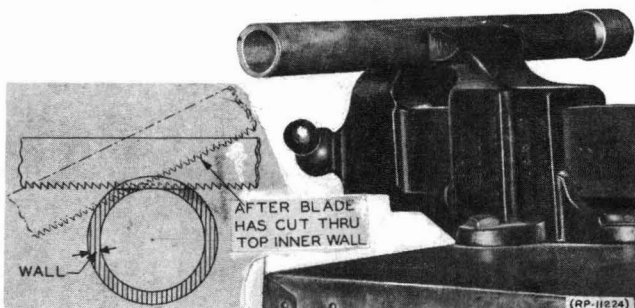

FIG. 2 CUTTING CONDUIT WITH R-2281 HACK SAW (PAR. 4.4)
4.4 Secure conduit to be cut in an R-1530 or R-2506 vise and cut with the R-2881 hand hack saw. Cut squarely through the conduit. As soon as the blade cuts through the first wall slightly lower the handle end of the saw as illustrated in Figure 2. When the holding position becomes awkward rotate the conduit to a new position.